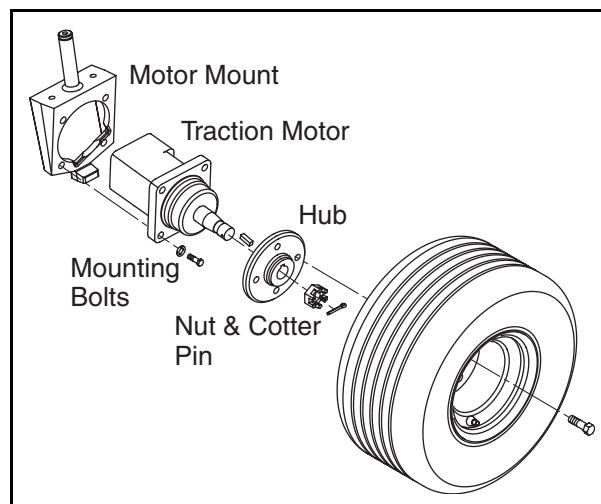

Figure 8F-2. Traction Motor Mounting
8. While supporting the motor, remove the four mounting bolts and lock washers, see Figure 8F-2.
1. Disassemble motor as shown in Figure 8F-3.